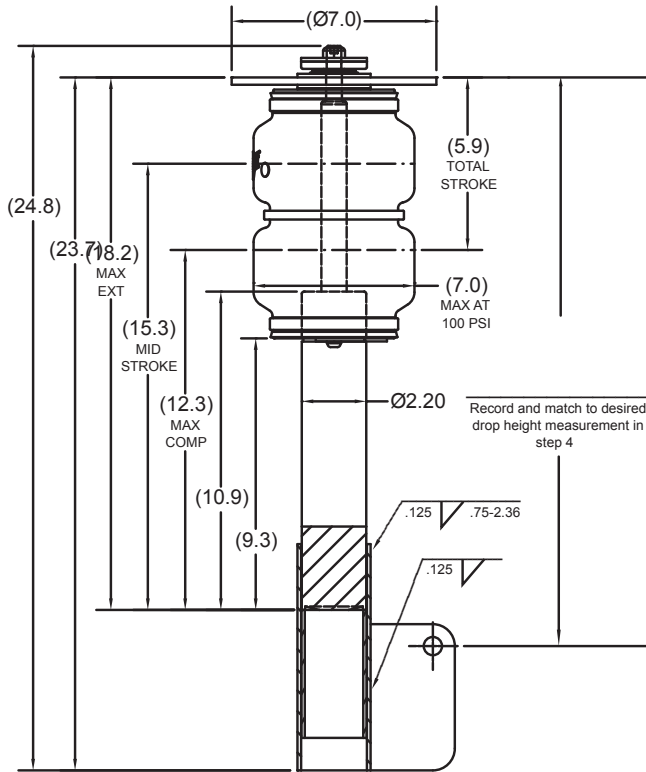

fig. 8a
4. Measure the desired drop height at the mounting points (top spindle bolt center and top of upper mounting bracket). Depending on the kit (75561 long stroke or 75562 short stroke) add 5.9" (150mm) or 4.4" (112mm) to this height (5.9" or 4.4" is the stroke of the bellow-over-strut that will be measured later). Record this height for later use in either **figure 8a, 8b or 8c** on the corresponding kit drawing.
7. Using the stock upper mount as a bolt template, apply this pattern to the flat round bracket provided (E). Measure the bolt diameter needed. This kit provides either 5/16" or 3/8" press-in studs. These studs (G or H) are required because of "head clearance" to the air spring. **Other bolts may cause rubbing of the bracket to the air spring, causing**